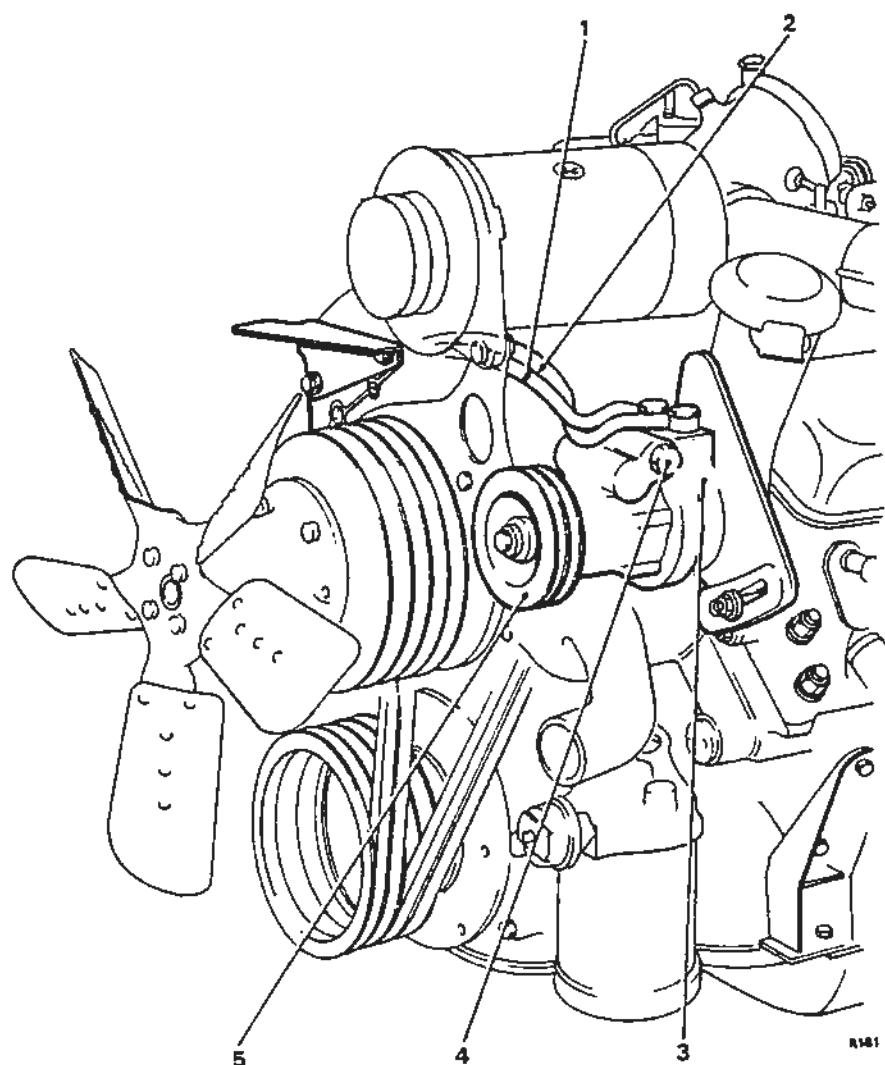
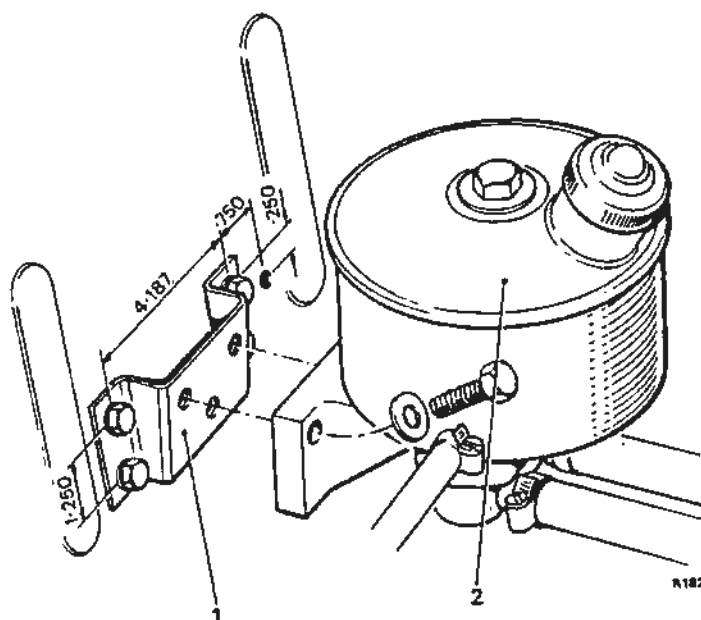

Figure 2. Pump in position
Figure 3. Fitting reservoir mounting bracket RH 8920 to bulkhead.
1. Using Figure 3 as a guide drill four holes into the bulk-head, insert an anchor nut (SPC 1697) into each hole, fit the reservoir bracket (RH 8920) and secure with the four setscrews (UA 103/Z) and washers (UA 1251/Z).
1. Using Figure 2 and Figure 3 as a guide, connect a hose, cut from RH 8912, between the pump and reservoir (pump return line).
2. The steering box to reservoir return pipe should be disconnected, the steering box end banjo bolt retained, the hose discarded and a new hose, cut from PH 8912, fitted as Figure 2. The banjo bolt, with new seals, should be fitted with the new banjo (UE 30018) to the steering box.